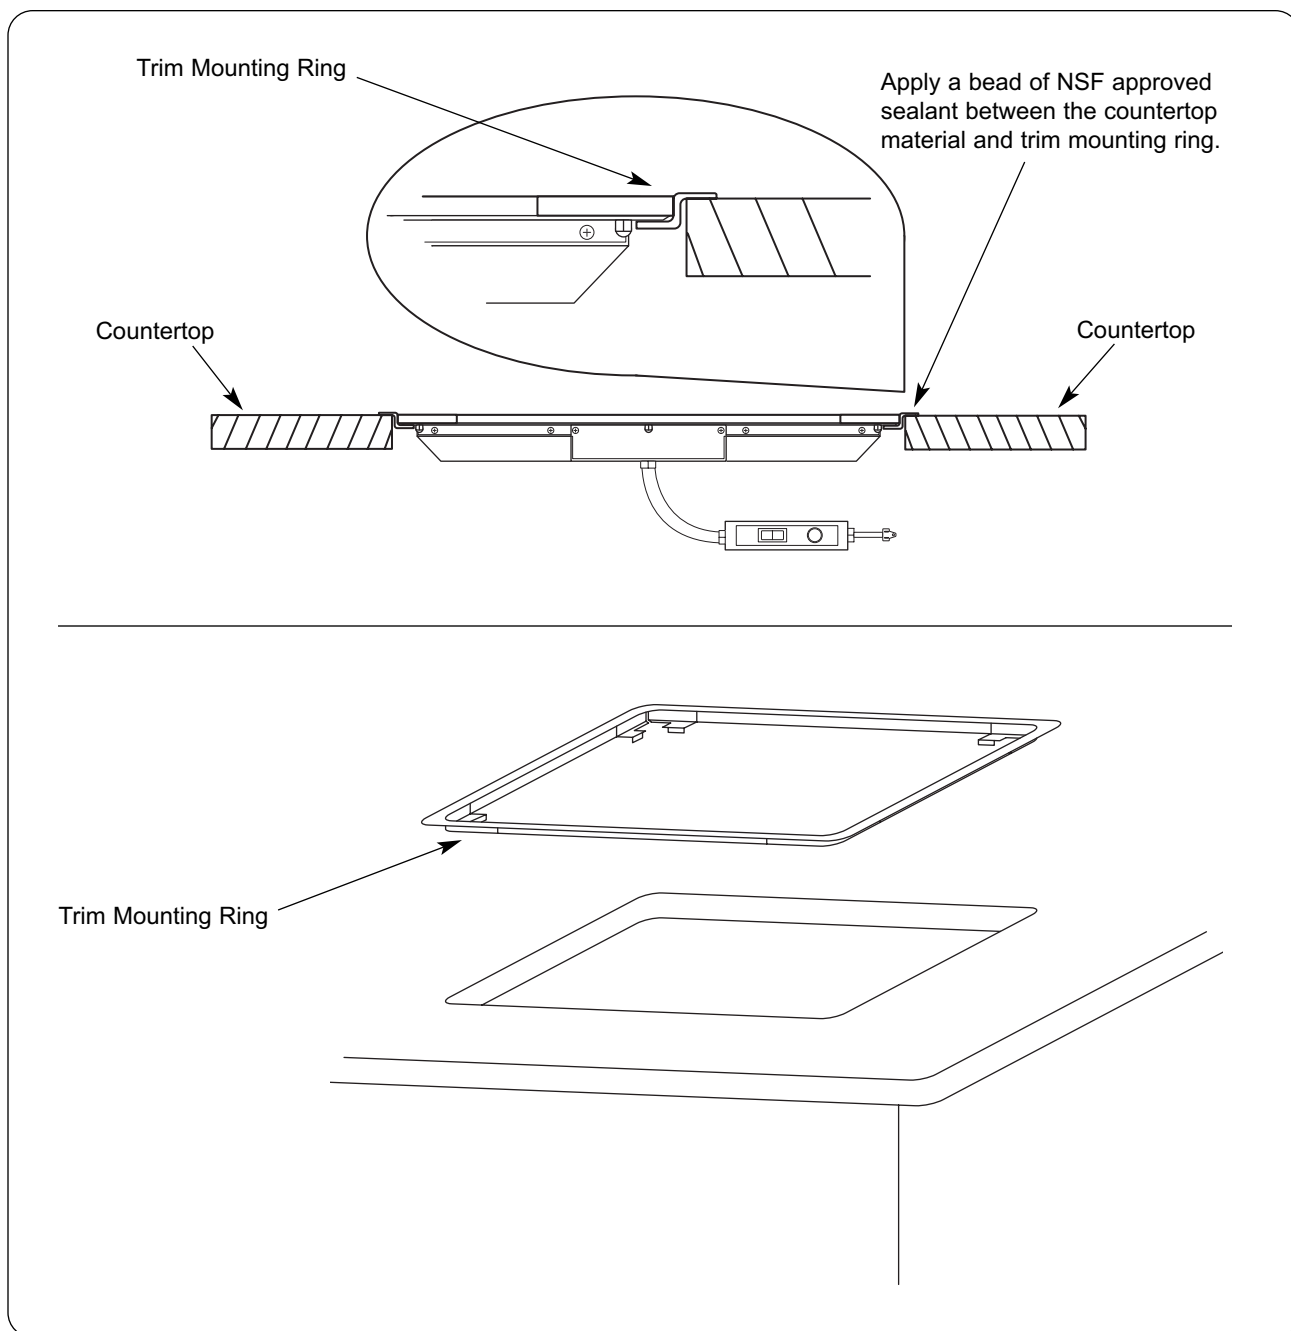

Figure 6. GRSSB Countertop Installation
4. Prepare countertop opening. (See Figure 6 for recommended countertop cutout dimensions.)
5. Apply a bead of NSF (National Sanitation Foundation) approved sealant on the top edge of the countertop cutout and the underside of the trim mounting ring. See Figure 6.